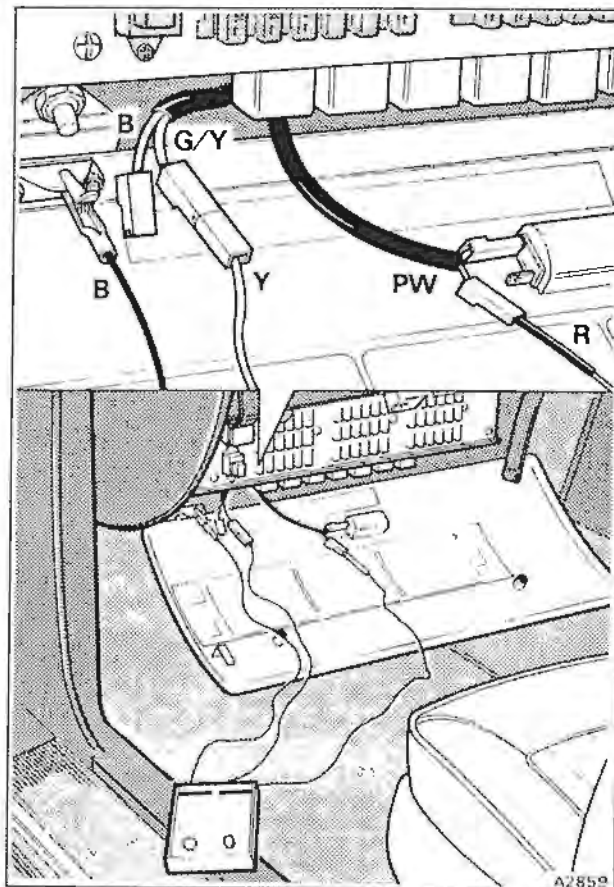

Fig. N4-1 Bosch K-Motronic interrogator in position
3. Closely inspect the area below and behind the fuseboard (see fig. N4-1). Locate the two cables, one green/yellow, the other black, taped back into the loom. These two cables should be freed and positioned as shown in the illustration.
8. Connect the test box RH 12210 to the car as shown in figure N4-1.